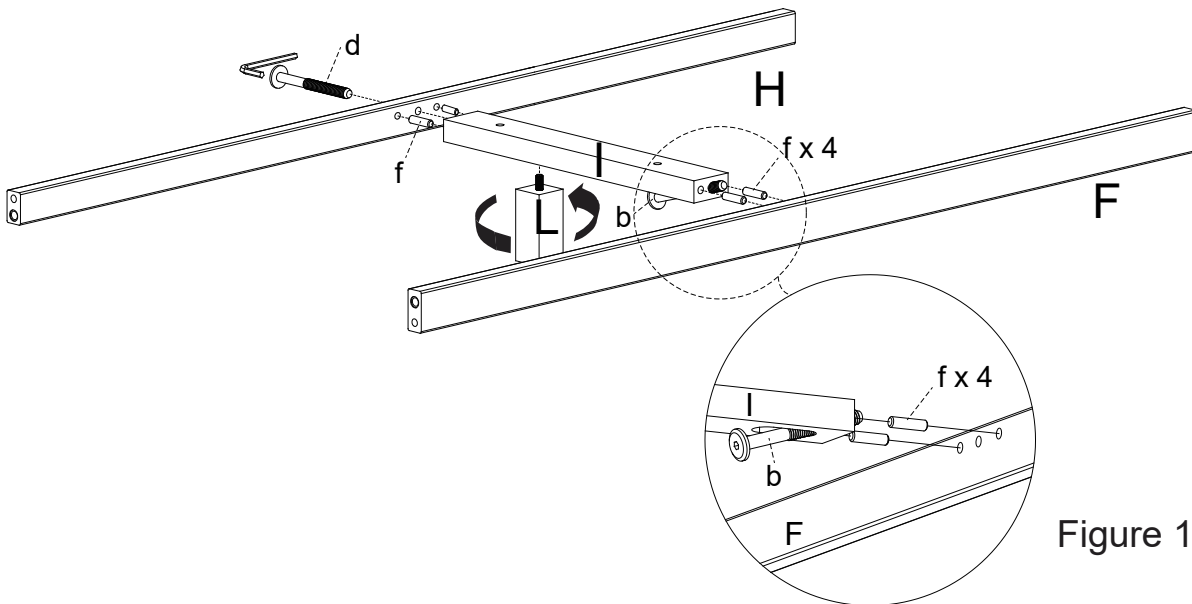

Figure 1
- ① Assembly the support rail (I) and support legs (L).
Assembly the support rail (I) and front-bottom rail (F) and rear-bottom rail (H), by using 4 wood dowels (f) and 1 Bolt (d) & 1 Bolt (b). as Figure 1.
1. Working on a padded flat surface, attach Drawer Sides (R1&R2) to Drawer Back (R3) with Philips Head Screw. *Figure 1*
①